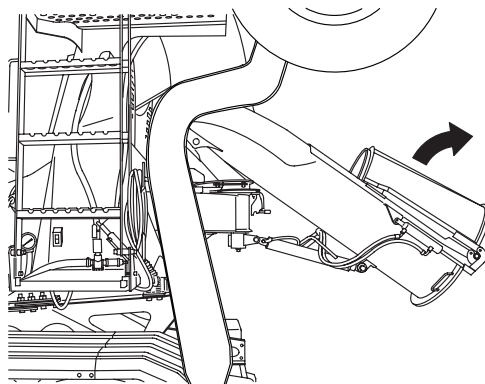

Figure 36
2. Grip the fold-over chute using the correct hand-holds (Figure 36).